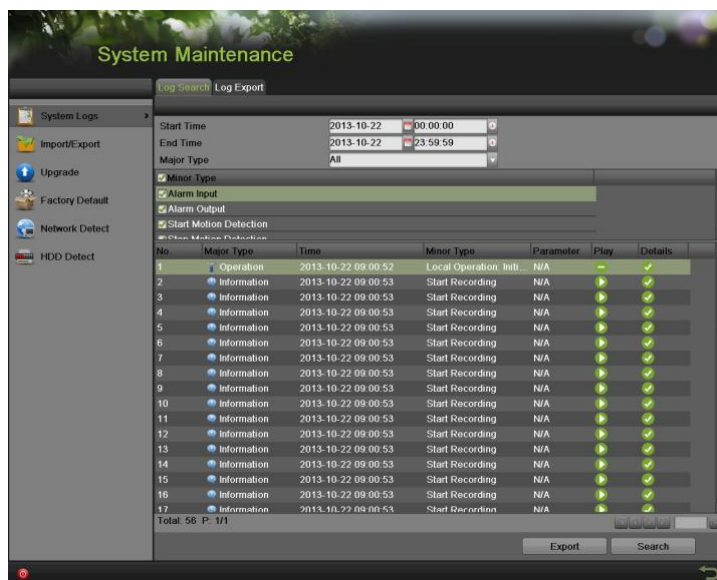

Figure 145 Log Search Results
5. Click the Search button. The search results will be displayed in a list (Figure 145). Click  to page up and down.